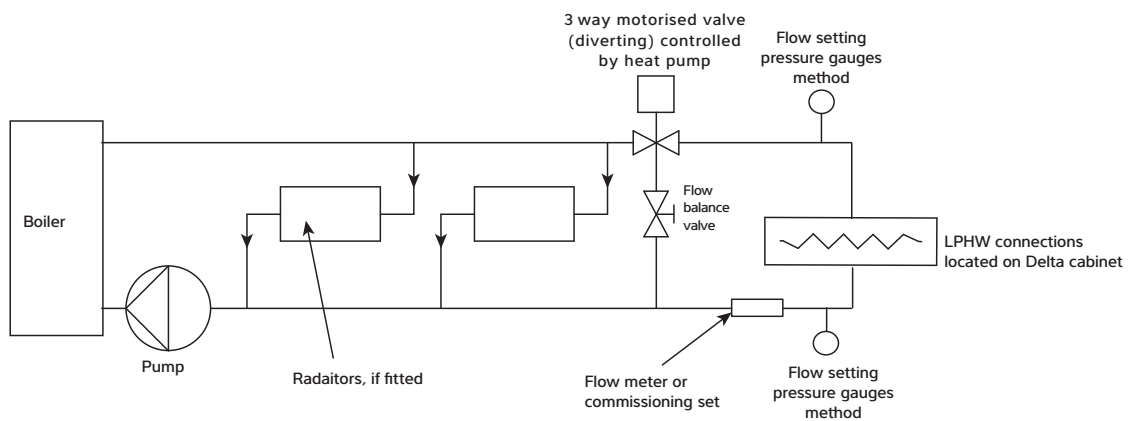

**Fig 3.1 Condensate drain schematic**
- b. All Delta models have a ¾" BSPM threaded condensate drain connection. The drain pipe should be run away with the adequate fall to waste i.e. ½" per ft minimum. DO NOT fit a trap as it is a standard fitting inside the unit. An air break or tun dish should be incorporated to prevent back flow of foul water and smells. (See Fig 3.1 on page 44.)